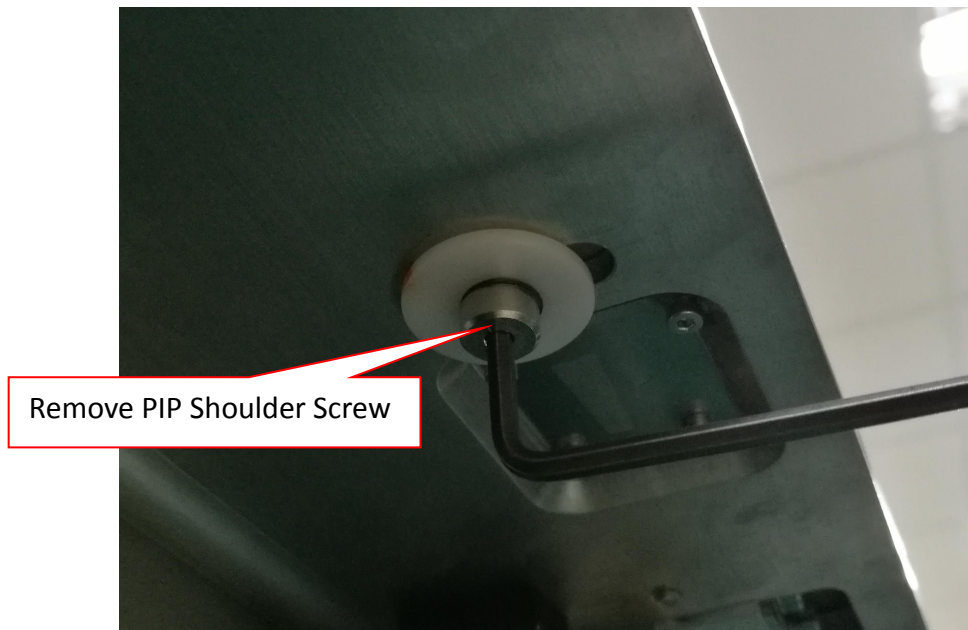

Figure 3 PIP Shoulder Screw Removal
6. Remove 1x 8-32 thread (Inch Type) PIP Shoulder Screw from PC, Board Stop as shown in Figure 3.